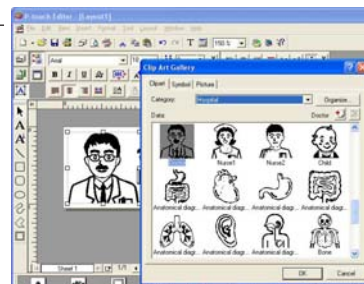

figure 21
- The selected clip art appears in the layout area (see figure 21).